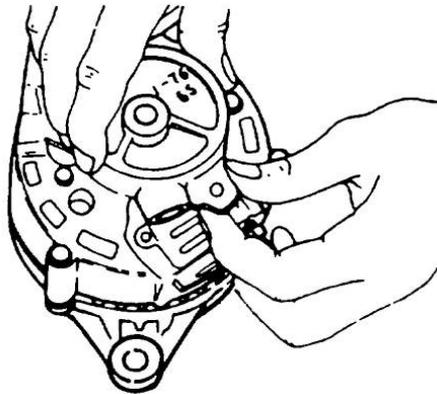

Figure 331 Installation of the Vacuum Pump
- j. Align the rotor bore and the centre plate hole and install the pump on the alternator. If necessary turn the housing to align with the holes in the alternator rear cover (Figure 331). Insert and tighten the three bolts securely.